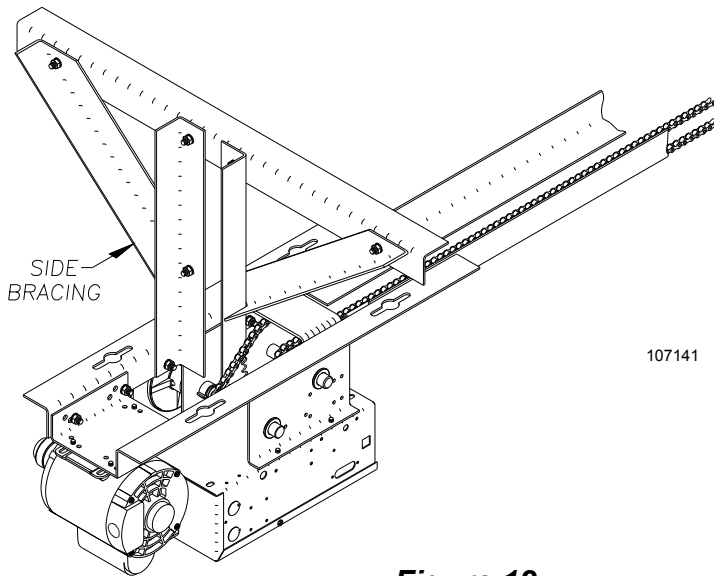

Figure 12
8) Figure 12 details a typical method of hanging the operator from the ceiling. Each installation will vary due to the difference in building structures; but in all installations side braces should be used to further strengthen the installation. If the operator track (rail) is longer than 15 feet a mid support is recommended.